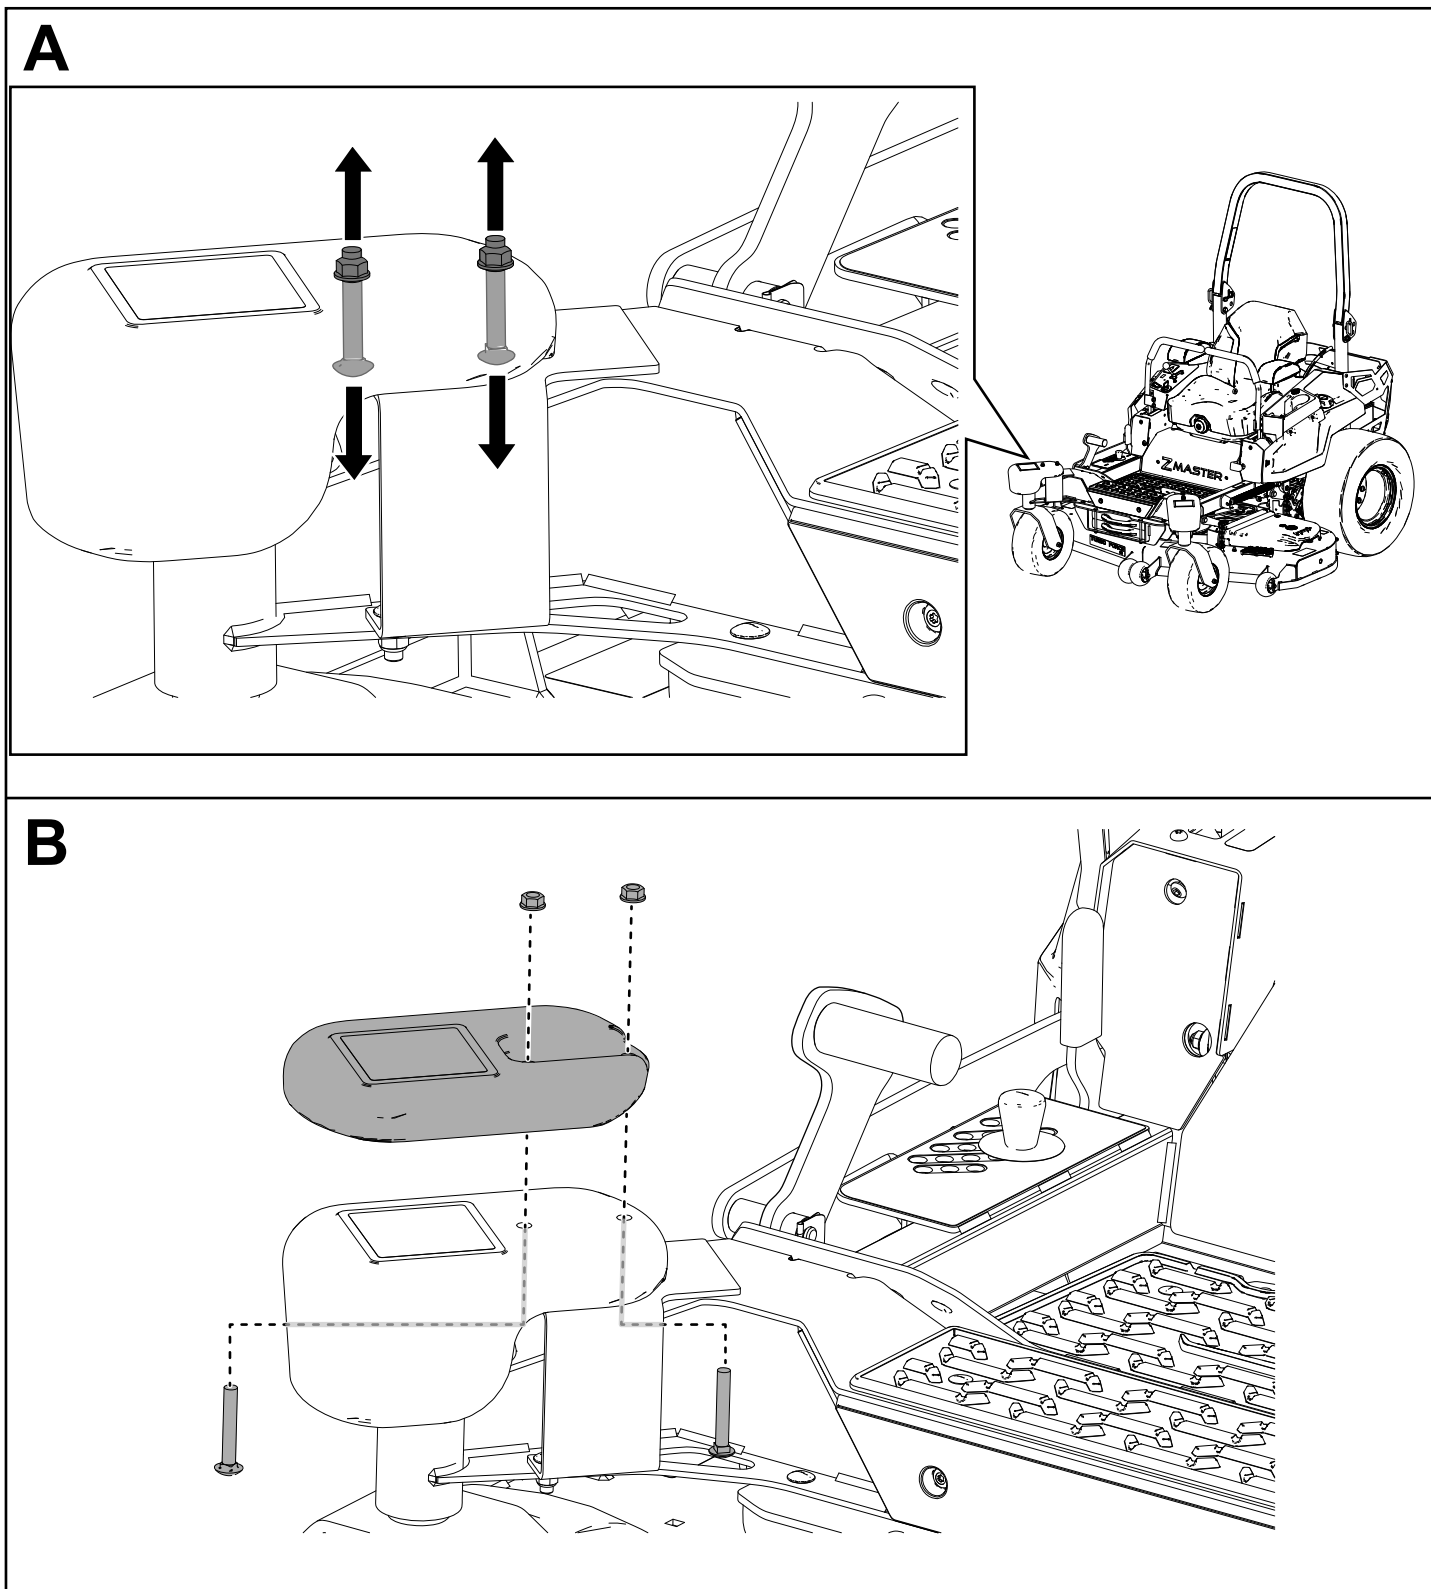

Figure 7
1. Remove the existing 2 carriage bolts and 2 nuts from the top of the caster weight (Figure 7).
2. Secure the 12.5 lb weight plate to the caster weight and bracket using the 2 carriage bolts (3/8 x 2-1/2 inches) and 2 hex-socket flange nuts (3/8 inch) as shown in Figure 7.